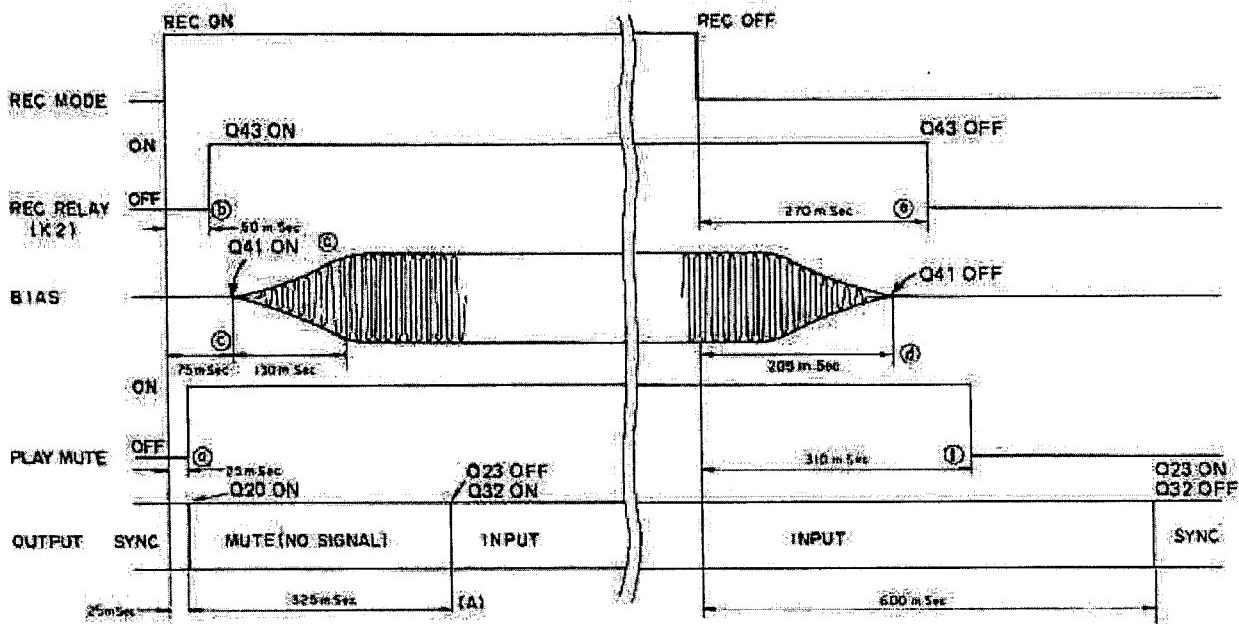

Fig. 8-8-2. Record On/Off Mute Timing Chart
7. In this way, switching operations for both Q32 and Q23 are made under influence of four time constants, each relating to capacitors C54, C53, C52 & C49, and C54, C53, C52 & C50 (as stated in 4, 5 and 6 above). Accordingly, their total time required for switching operation becomes considerably long as shown in Fig. 8-8-2 (A).
8. When Q38 is cut off, Q39 is turned on until C44 is charged; thereby, discharging the residual charges stored in C43. Then C43 is recharged through R144, R145, R146 and, when recharging is completed, Q40 is turned on. After this, charging to C42 begins through R143, R147 and the charged voltage reaches approx. 0.6 V, which causes Q41 to turn on to actuate the bias oscillator amp. In this way, the operation of bias amp is influenced by the corresponding C44, C43, and C42 time constants, causing the bias driver oscillator to start functioning at approx. 75 msec, after the record-in operation has been set, to gradually increase the bias amplitude as shown in Fig. 8-8-2 (c). Accordingly, the amplitude of the signal being recorded on the tape is also gradually changed to the steady state, thus eliminating switching noises.
10. The charges stored in C43 is discharged through D56, R145, Q38 (emitter-collector path) as Q38 is turned on. Then Q40 is cut off, followed by Q41 cutting off. The time required to cut Q41 off depends upon the sum of the discharging time constants of C43 and C42, and is set to approx. 205 msec, as shown in Fig. 8-8-2 (d). As the result, the bias oscillator voltage amplitude of the bias driver amplifier is gradually attenuated as illustrated, and the amplitude of signals being recorded is also attenuated gradually.
11. When Q45 is turned on, the charges stored in C53 is discharged through R162 and Q45 (emitter-collector path), cutting off Q43 as the discharging potential is decreased. Then the REC relay is switched in to the Repro side. The time required to actuate the REC relay is set to approx. 270 msec, completely after the bias oscillator voltage amplitude has been attenuated to zero. Refer to Fig. 8-8-2 (e).
2. Since Q50 base bias falls as the MUTE terminal goes L, Q50 is cut off and the voltage at junction R195 and C48 rises for the time period determined by R194/R195 and C48 time constant. Since voltage is applied to the base of Q20, Q20 is turned on after the time constant time (approx. 25 msec), and the sync reproduction signal is shorted at ground through the emitter-collector path of Q20, thus disconnecting sync output from the OUTPUT terminals. Refer to Fig. 8-8-2 (a).
The time required for this switching has been adjusted to approx. 50 msec through the time constant circuits including C53, R162, C54, R164, etc. Refer to Fig. 8-8-2 (b).
On the other hand, PLAY MUTE terminal 5 of the connector P103 goes H immediately after the record-out operation, but Q50 base bias voltage is unable to rise because, at this time, output pin 4 of U6 (4, 5, 6) is being set to L. Therefore, Q50 is maintained cut off and Q20 is also held in its conductive state. Next, when Q42 is turned on, input pin 2 of U6 (1, 2, 3) goes H and output pin 3 and input pin 5 of U6 (4, 5, 6) go L, causing output pin 4 to go H. Accordingly, Q50 is turned on, and this makes Q20 cut off, thus releasing the shortout circuit for SYNC reproduction signals. In other words, Q20 can not be turned off until the REC relay completes switching in to the SYNC position; Thus no switching noise is developed in the monitor output circuit. Refer to Fig. 8-8-2 ①.